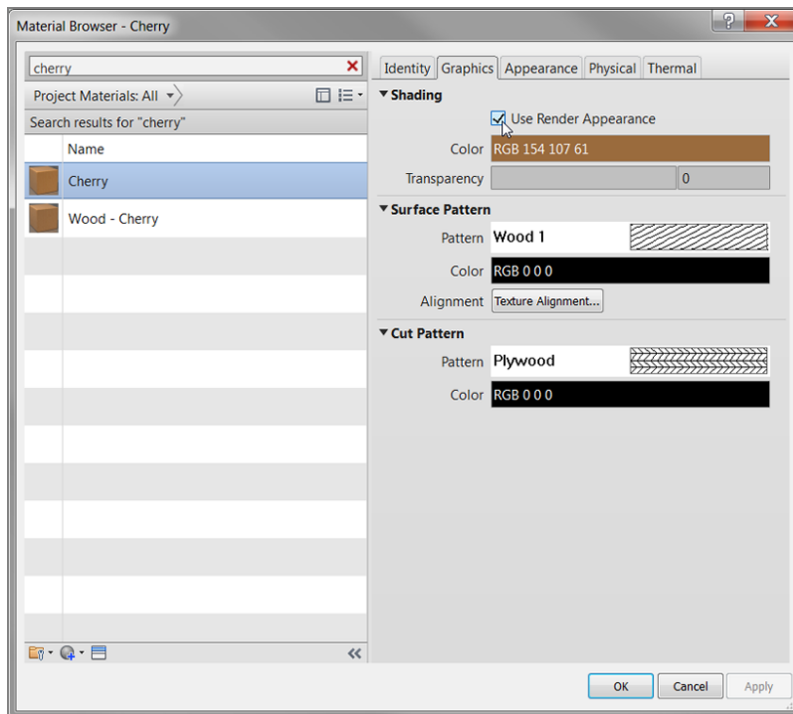

FIGURE 9.17: Selecting and configuring the material for the ceiling
12. In the top of the Material Browser dialog box, type Cherry, as shown in Figure 9.17.
15. Below the Surface Pattern category, expand the Cut Pattern category. Change the Pattern field to Plywood. Click OK. (See Figure 9.17.)
16. In the Shading category, click the Use Render Appearance box (see Figure 9.17).